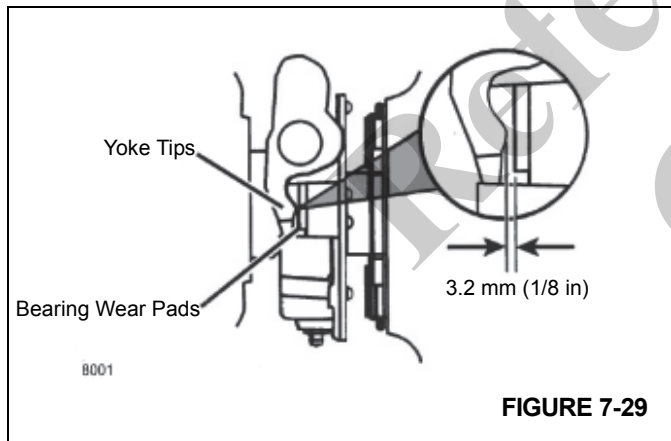

FIGURE 7-29
- The adjusting screw is set to 1.6-3.2 mm (1/16-1/8 in) wear clearance, as shown, (Figure 7-29).
11. Verify free-play: Check distance between yoke tips and bearing wear pads. This should be 3.2 mm (0.125") (Figure 7-29). To change clearance, adjust upper pedal stop in cab.